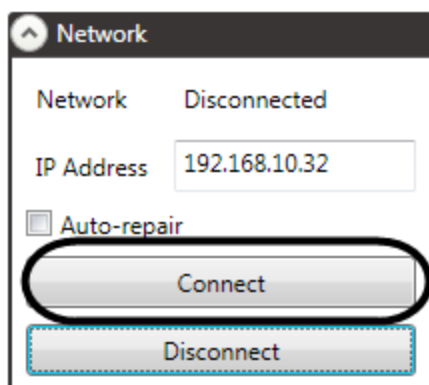

Figure 80
3. In the **Network** section of the **Stagehand Editing Pane** on the right side of the screen, enter the **IP Address** of your Stagehand Motor or FX and click **Connect** (Figure 80).